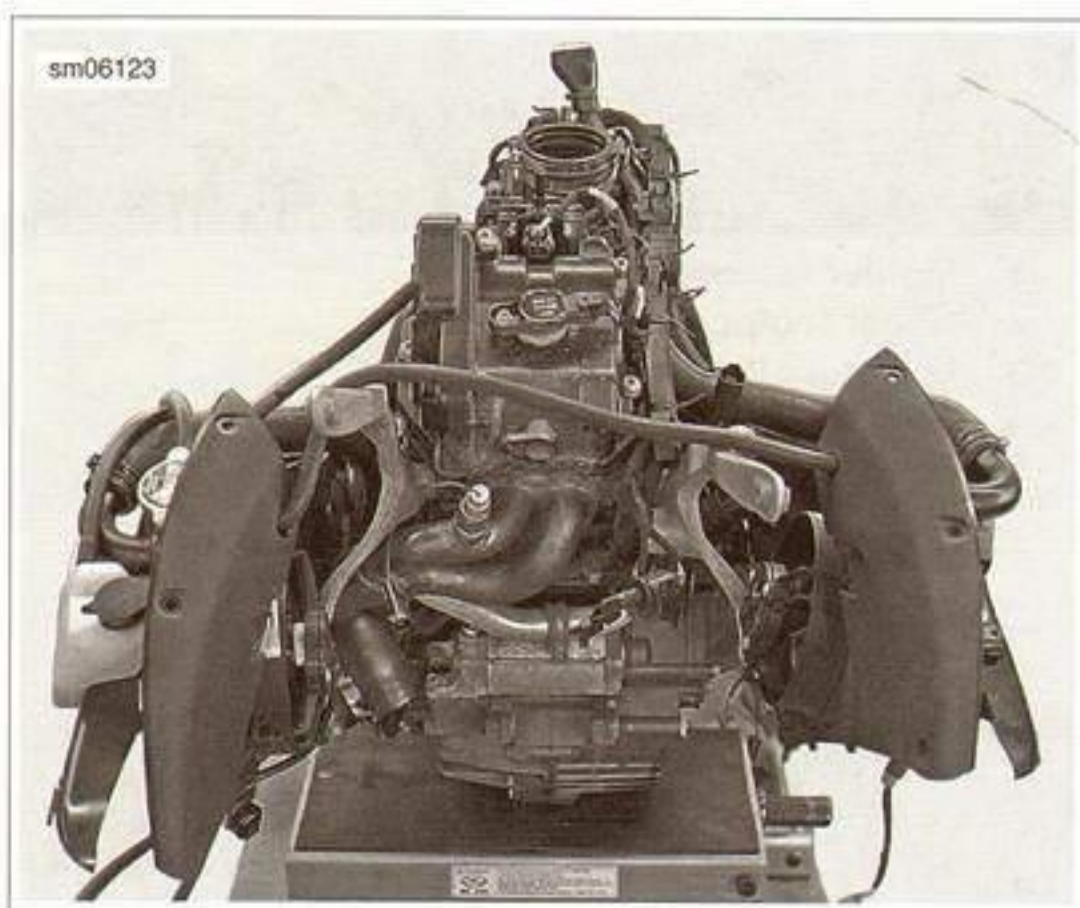

Figure 3-42. Engine and Cooling System
1. See Figure 3-42. Drain the cooling system. See 5.4 ENGINE COOLANT.